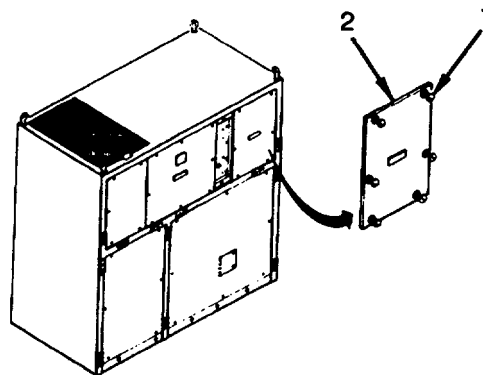

Figure 4-5. Right Front Evaporator Panel Removal
- c. Remove Right Front Evaporator Panel. Loosen six captive fasteners (1) and remove panel (2) (see Figure 4-5).